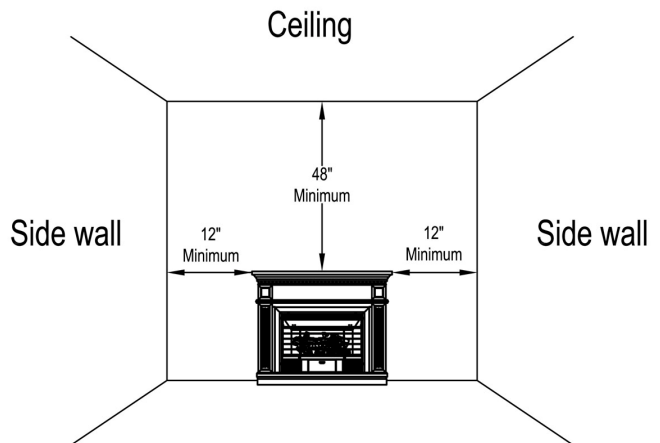

Figure 4 – Minimum Clearance to Wall and Ceiling
**IMPORTANT:** You must maintain minimum wall and ceiling clearances during installation. The minimum clearances are shown in Figure 4. Measure is from outermost point of heater.
#### Minimum Wall and Ceiling Clearances (see Figure 4)